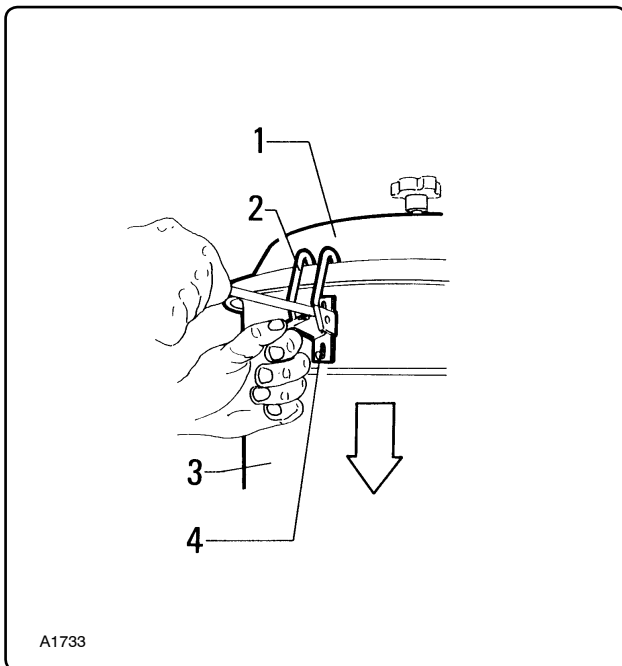

Fig.7.5.7
7.5.5 - Checking the tightness of the filtering chamber (fig. 7.5.7)